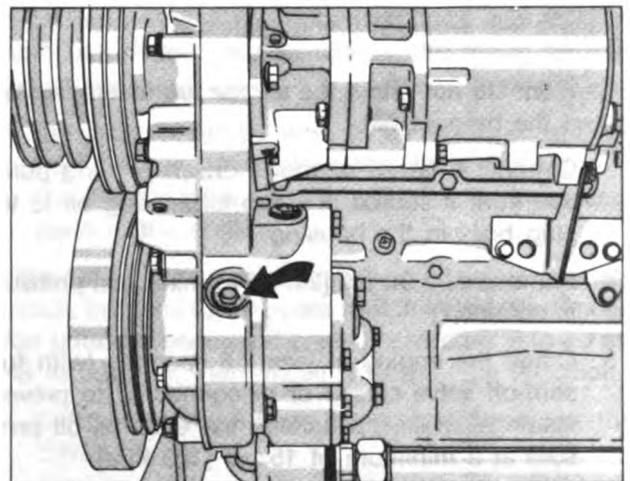
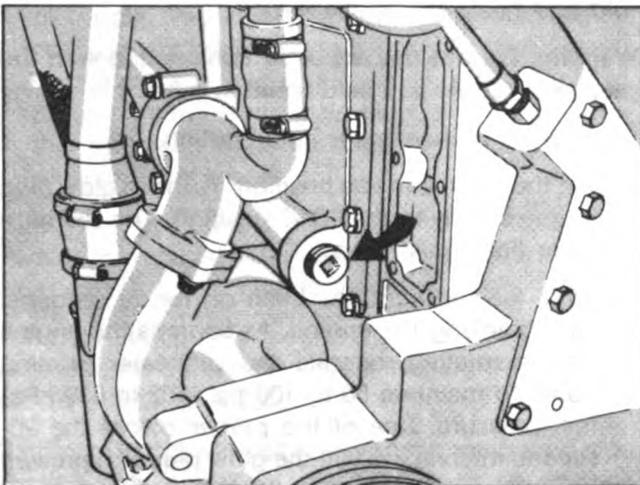

Fig. 1-1, (OM1001L). Lubricating system priming point—NT-855 C.I.D. Engine
Fig. 1-7, (OM1004L). Lubricating system priming point—KT/KTA C.I.D. Engine
2. Remove the plug from the lubricating oil crossover passage on NH/NT-855 Engines, Fig. 1-1. Remove the plug from the head of the lubricating oil filter housing on V Engines, Fig's. 1-2, 1-3, 1-4, 1-5 and 1-6. On KT/KTA-1150 Engines, remove the plug from the front of the oil cooler housing, Fig. 1-7.